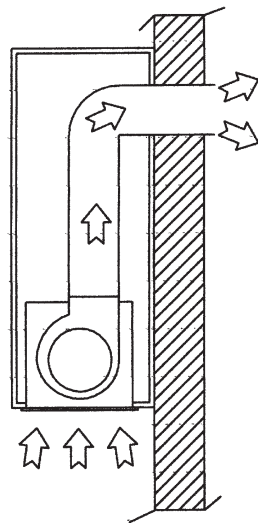

Fig.2.
- › In ducted mode (Fig.2), fumes are directly conveyed outside, through ducting connected from the extractor to the outside. Both charcoal filter and air deflector are not necessary in this case.